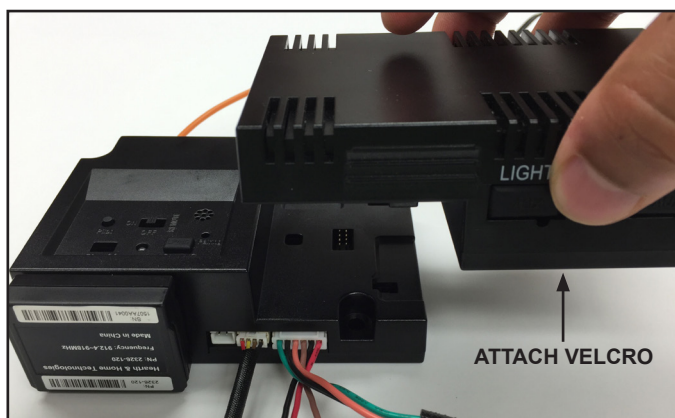

Figure 8. Connecting IFT-ACM and IFT-ECM
3. Attach velcro included with the IFT-ACM to the bottom of the ACM. See Figure 8.
4. Connect the IFT-ACM to the IFT-ECM by aligning the pins and tabs and pushing the IFT-ACM into the IFT-ECM until both tabs latch in place. Ensure the IFT-ECM and IFT-ACM are aligned with each other and fastened securely. See Figure 8.